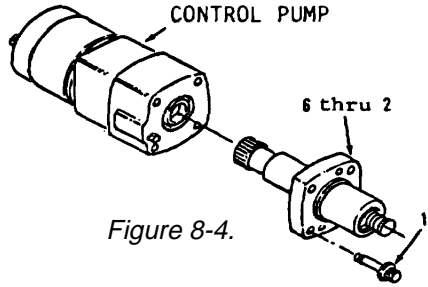

Figure 8-4.
- 11. Install items 6 thru 2 as an assembly and four bolts (1, Figure 8-4) on control pump.